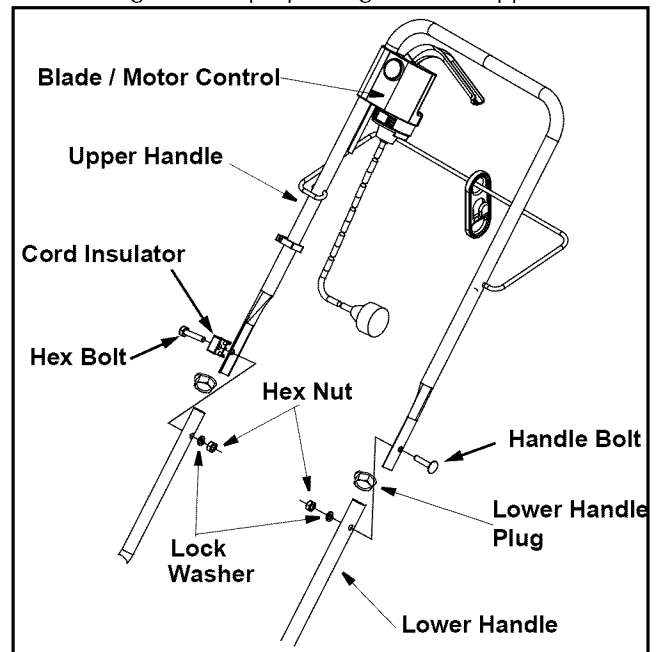

Figure 3
- Standing behind the lawnmower with the upper handle, make certain the two holes that will hold the blade / motor control are on the right hand side. See Figure 3 for proper alignment of upper handle.
- Align the holes in the lower handle with those of the upper handle and insert the hex and handle bolts through both holes as shown in Figure 3 .
- Refer to Figure 3 for proper alignment of hardware and handles.